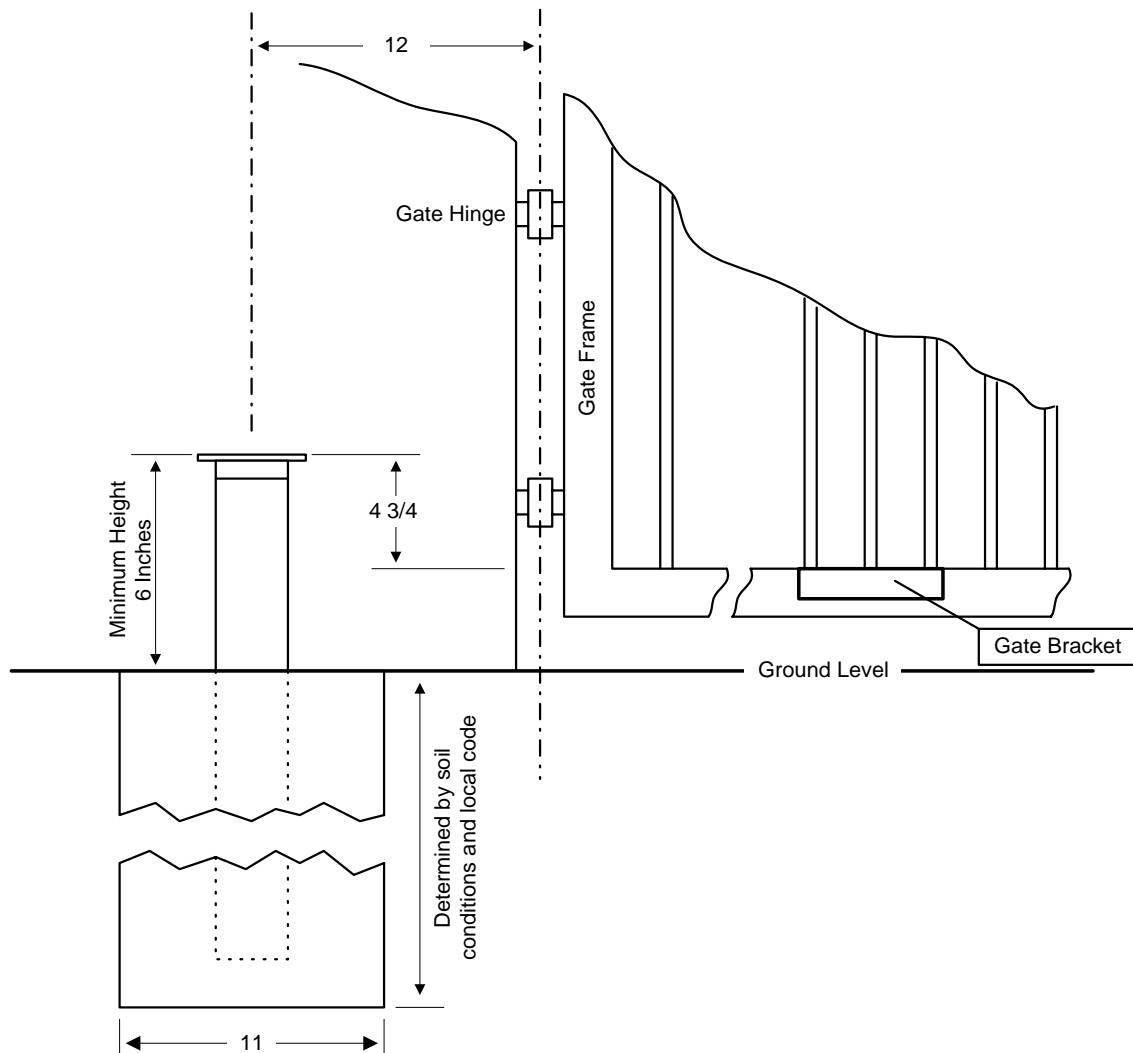
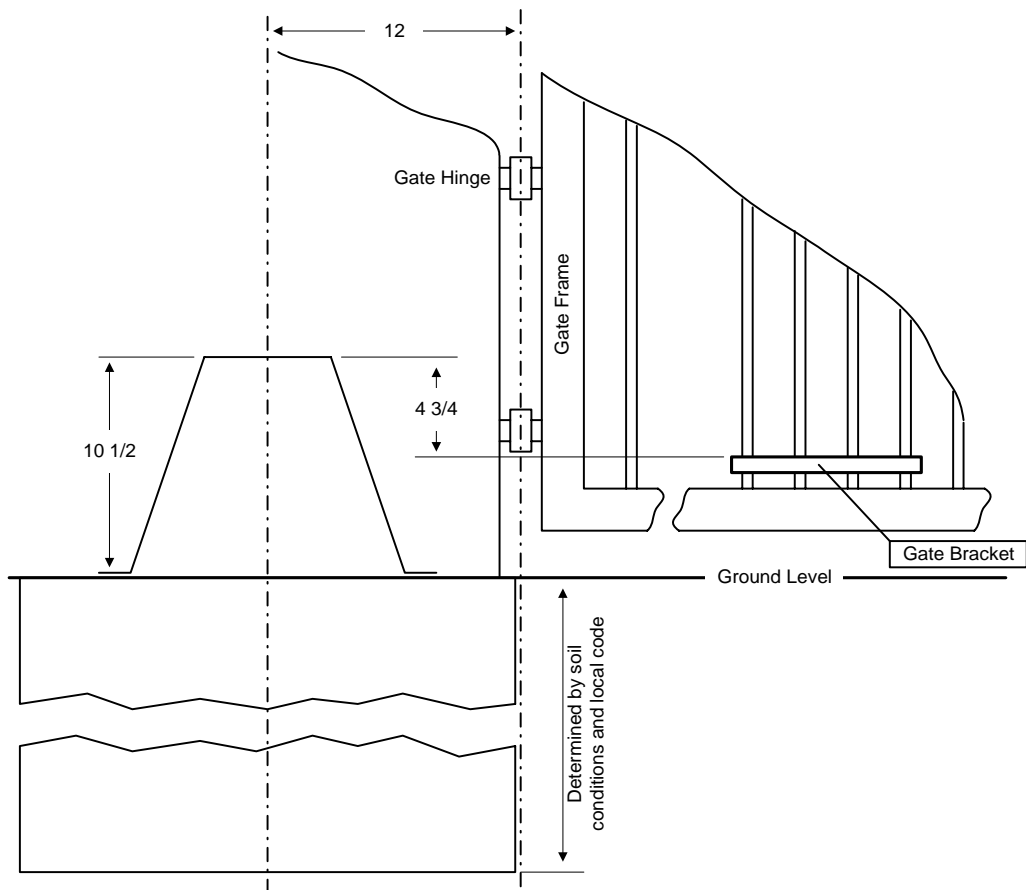
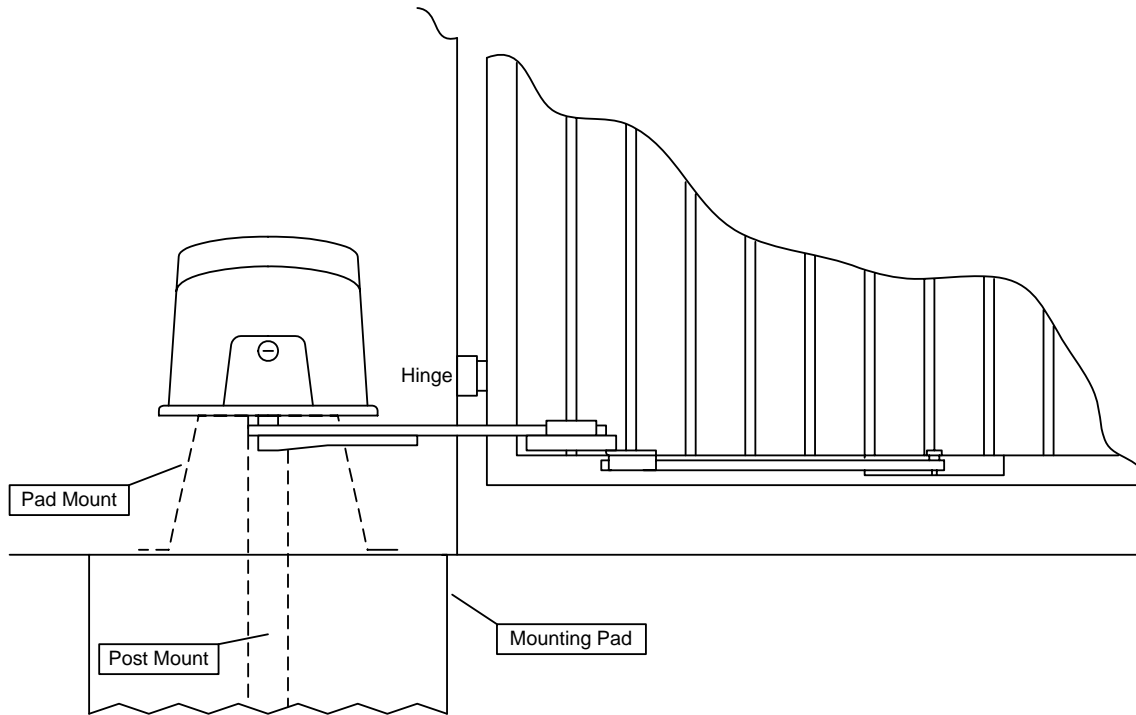

Figure 4
Figure 7
Figure 12
5. Determine the height of the assembly required for your installation. Refer to Figure 4.
- The concrete pad is sized so that there is a minimum of four (4) inches of concrete from the outside edge of the mounting pipes.
- The height requirement is determined by adjusting the mounting plate / pipe assembly so that the top of the mounting plate is 4 3/4 inches above the top of the gate rail (Figure 4). This will allow you to mount the gate bracket onto the bottom rail of the gate and will keep the crank and connecting arms level (see page 8, Figure 12).
- The concrete pad is sized so that there is a minimum of four (4) inches of concrete around the perimeter of the pad.
- Attach the gate bracket to the gate so that the top of the mounting plate is $4\frac{3}{4}$ inches above the top of the gate bracket as shown in Figure 7. This will keep the crank and connecting arms level (see page 8, Figure 12).
- The position of the gate bracket on the gate is directly related to the height of the concrete pad above ground level. If allowed by local codes, the top of the concrete pad can be flush with ground level as shown in Figure 7, which will allow the gate bracket to be lower on the gate.